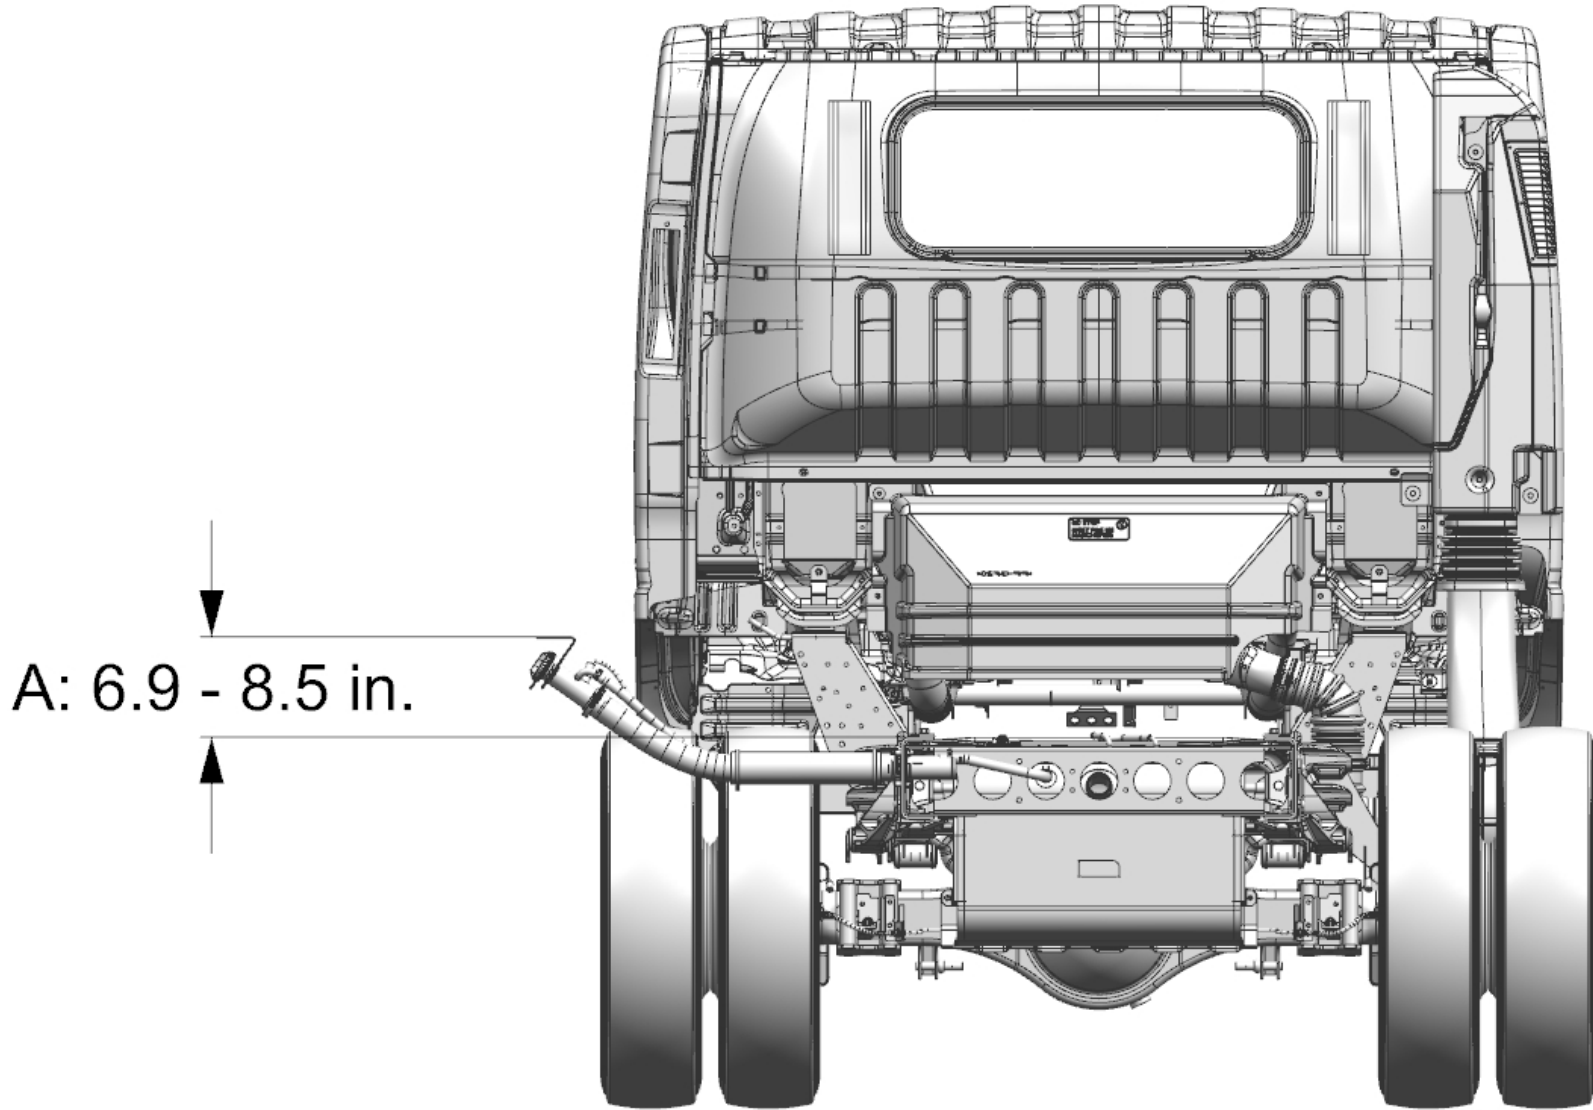

Figure 9
8. Filler neck (Figure 9 or 14 - Dimension A) must be between 6.85 inches and 8.5 inches above frame.